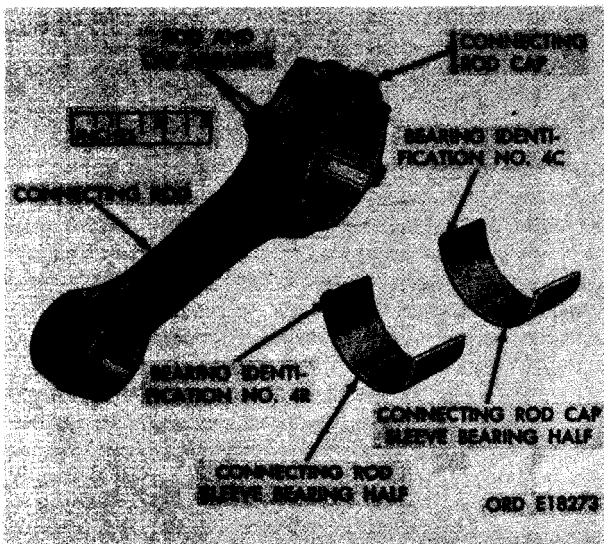

FIGURE 343. CONNECTING ROD SLEEVE BEARING AND CONNECTING ROD IDENTIFICATION NUMBER LOCATIONS.
and cap for cylinder No. 4. Connecting rod sleeve bearings are also marked to indicate their locations. The connecting rod sleeve bearing halves (fig. 343) for No. 4 connecting rod are marked "4R" for the half that fits into the rod, "4C" for the bearing that fits into the cap. The identification marks appear inside the alignment tang of each bearing half. If the connecting rod, cap, or bearing markings are obliterated, mark with a grease pencil for installation in their original positions. Install rod cap on connecting rod using the two connecting rod bolts after connecting rod sleeve bearing halves have been removed.
- (4) Piston pin. Inspect piston pin (XX) for wear, cracks, nicks, or scratches. Check diameter of pins against limits specified in repair and rebuild standards (par. 292). Replace unserviceable pins. Replace cracked or unserviceable piston pin retaining rings.
- (5) Connecting rod bearings. Inspect connecting rod bearing halves (SS-4) in the same manner as described in paragraph 159 for the main sleeve bearing halves. Apply a thin coating of Prussian blue to the backs of the connecting rod bearing halves and install the bearing halves in their respective connecting rod and cap according to location markings (fig. 343). Assemble rod and cap and tighten connecting rod bolts to a torque of 800 pound inches. Check bearing inside diameter, using a micrometer, as shown